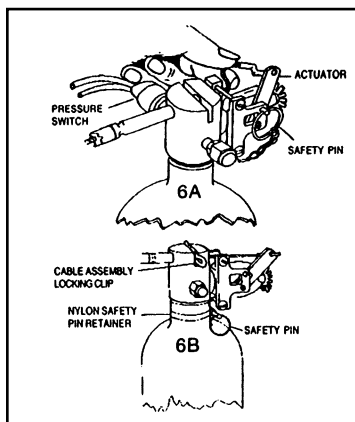

Figure 6
Step 3 Connecting cable assembly to cylinder (**Figure 6 or 7**)
c. Using care, remove the factory installed actuator lever safety pin from the cylinder. Store safety pin in the nylon retainer provided on the cylinder neck (**Figure 6 or 7**).